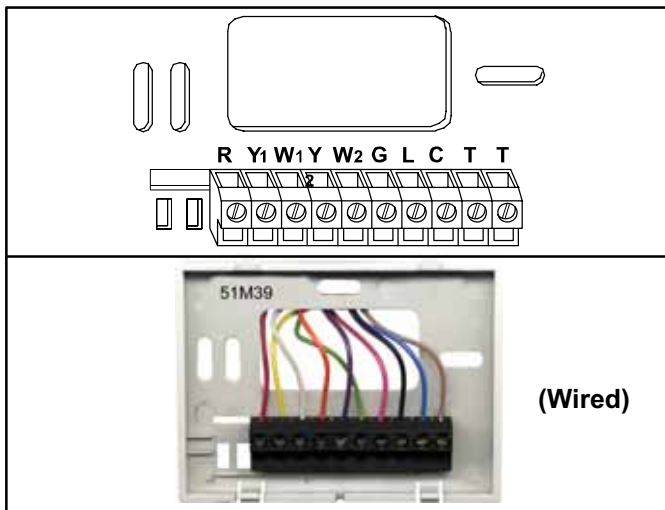

Figure 2. L3722C Terminal Strip
- L3722C - See table 2 and figure 2.